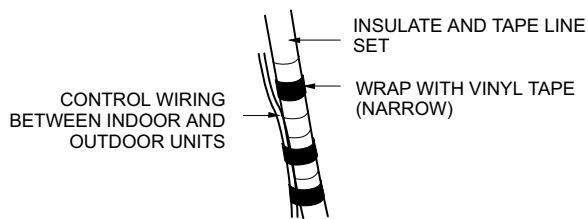

FIGURE 45
4. Tape the control wiring to the line set bundle (figure 45).